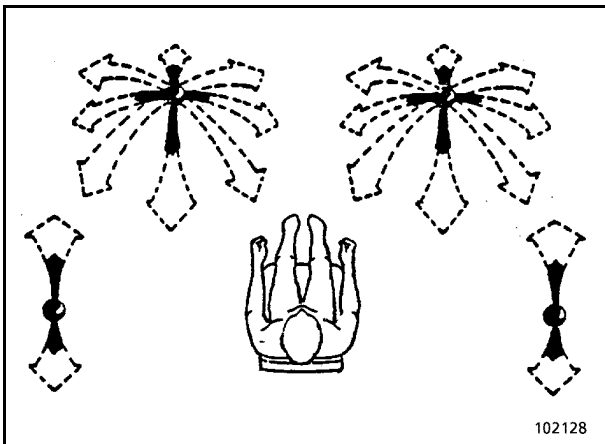

Fig. 3-57:
- Shift both control levers repeatedly into all directions (Fig. 3-57:).